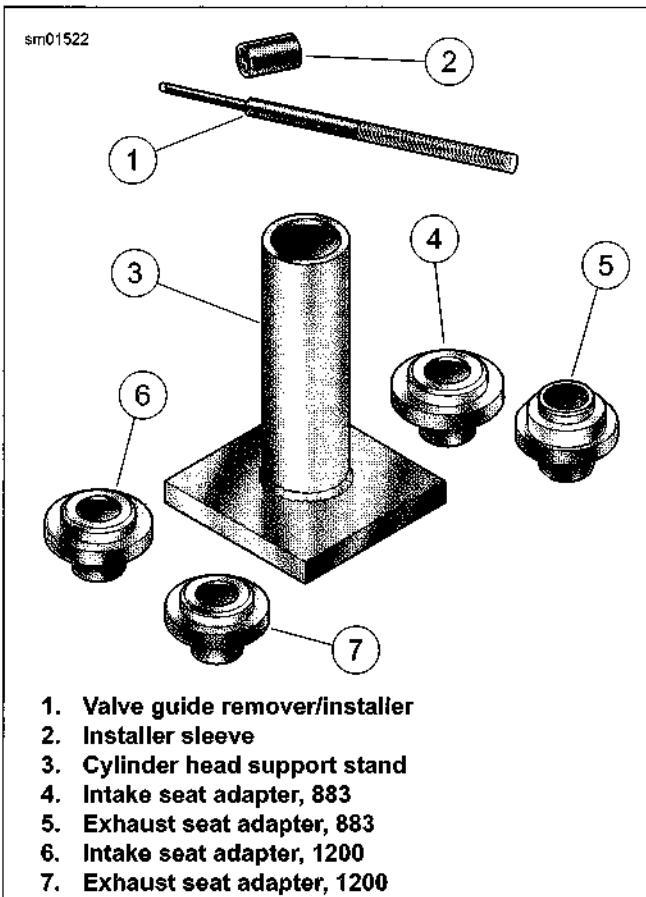

Figure 3-35. Valve Guide Replacement Tools
1. See Figure 3-35. Prepare cylinder head for valve guide replacement.
- a. Insert sleeve of intake (4 or 6) or exhaust (5 or 7) seat adapter into tube at top of CYLINDER HEAD SUPPORT STAND (Part No. HD-39782-A) (3).
See Figure 3-35. Installer sleeve (2) is not used for valve guide removal.
3. Center VALVE GUIDE REMOVER/INSTALLER under press ram (3). Apply pressure until valve guide drops free of cylinder head. Discard valve guide.
- a. See Figure 3-35. Insert sleeve of intake (4 or 6) or exhaust (5 or 7) seat adapter into tube at top of cylinder head support stand (3). Position cylinder head so that valve seat is centered on seat adapter.
- d. Place installer sleeve (2) over valve guide. Insert VALVE GUIDE REMOVER/INSTALLER (1) into installer sleeve.